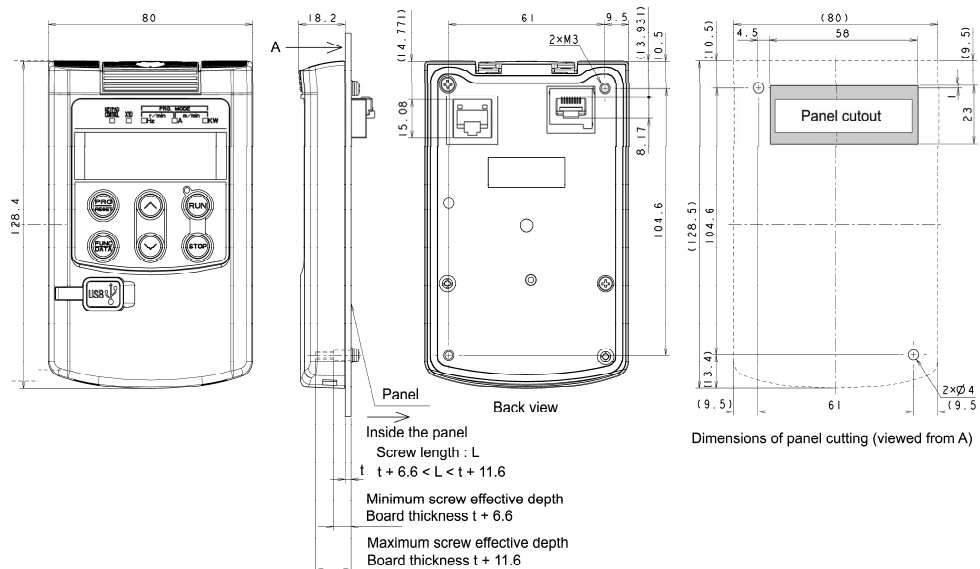

Figure 2.3 External Dimensions, Dimensions of Square Cut-out and Screw Holes
(Note 2) Use screws with the length suitable for the wall thickness of the panel. (Please refer to Figure 2.3)
■ Mounting the remote keypad on the panel (Figure 2.3)
- ① Cut the panel out for a single square area and perforate two screw holes on the panel wall as shown in Figure 2.3.